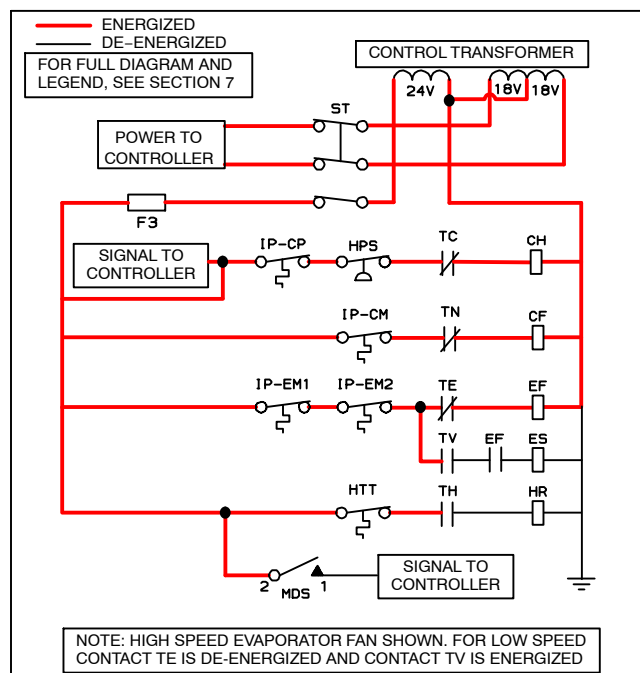

Figure 3-6 Perishable Mode Cooling
- a. With supply air temperature above set point and decreasing, the unit will cooling with the condenser fan motor (CF), compressor motor (CH), evaporator fan motors (EF) energized, and the white COOL light illuminated (see Figure 3-6).